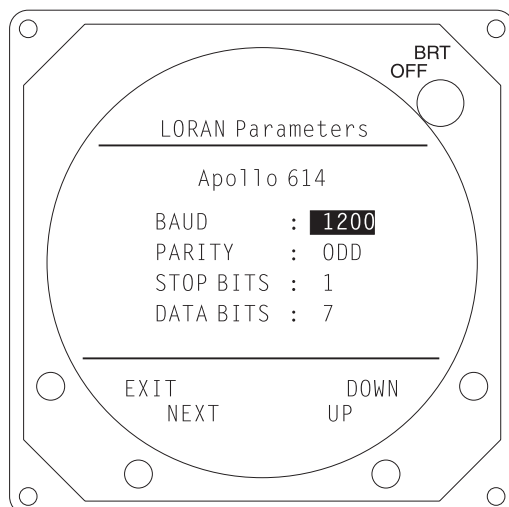

Figure 4-13. Communication Parameters
2. If the communications parameters for the selected device can be changed, the display will present these options (see figure 4-13).